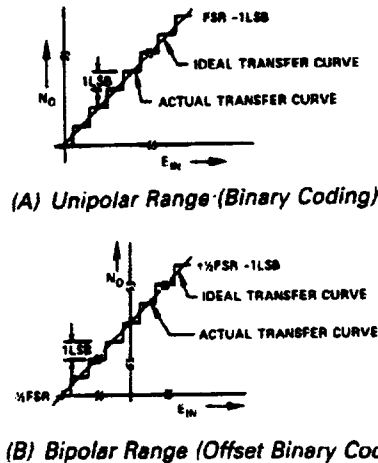

Figure 3. Unipolar and Bipolar Range Transfer Curves
The encoding process defined by the previous relations (1) and (2) or (3) and (4) determines that the analog input lies within one of the $2^{12} = 4096$ quantization levels between 0 and FSR (or $-FSR/2$ and $+FSR/2$). Figures 3 (A) and 3 (B) show the actual device transfer curves for unipolar and bipolar ranges (offset binary coding). They also show the ideal straight-line transfer curves which pass through the center of each quantization level. As can be seen from these figures, the actual and ideal transfer curves differ by exactly $\pm 1/2 \text{ LSB}$ at the end of each quantization interval, giving rise to the fundamental $\pm 1/2 \text{ LSB}$ quantization error inherent in the digitizing process.